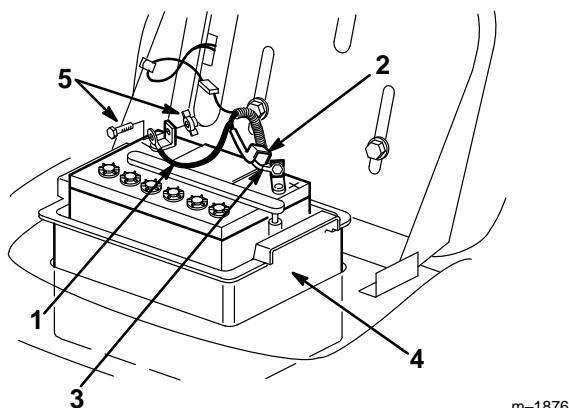

Figure 19
3. Disconnect the negative (black) ground cable from the battery post (Fig. 19).
4. Slide the rubber cover up the positive (red) cable. Disconnect the positive (red) cable from the battery post (Fig. 19).
3. Using the bolt and wing nut, connect the positive (red) cable to the positive (+) battery post (Fig. 19). Slide the rubber cover over the battery post.
4. Using the bolt and wing nut, connect the negative (black) cable to the negative (−) battery post (Fig. 19).